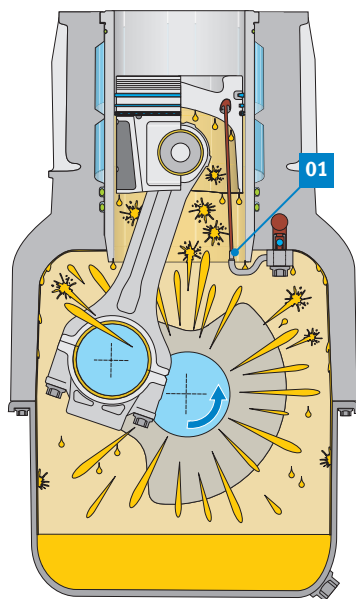

Fig. 2: Direct and indirect component lubrication by oil spray and centrifugal oil
Fig. 2 illustrates the engine lubrication situation at medium engine speed. Thanks to the higher engine speed, sufficient oil pressure is available to open the oil injection jet valves and thus supply the piston cooling oil ducts with fresh oil (01).